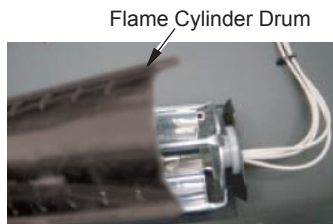

Figure 9 - Flame Generation Cylinder Drum
5. Locate flame generation cylindrical drum, Figure 9.